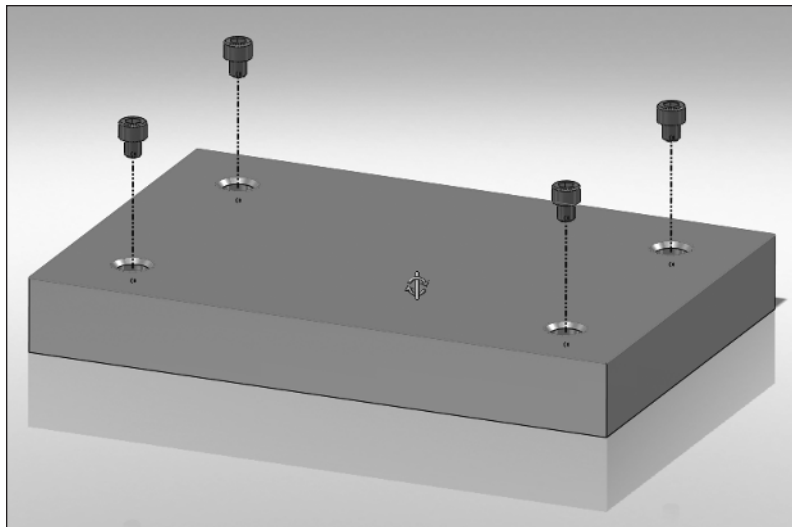

FIGURE 1.38 Rotating the view using the middle mouse button
2. Move the mouse around while still holding the wheel to rotate the view. The mouse pointer will change to the rotate view icon. See Figure 1.38.